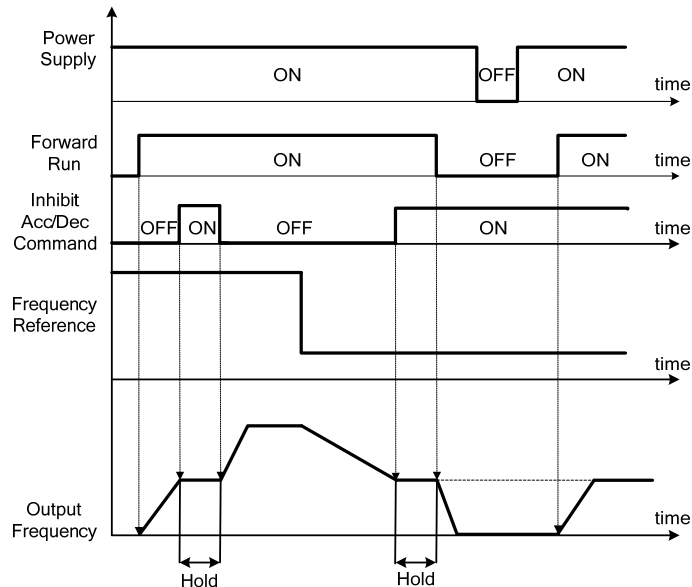

Figure 4.3.21 Inhibit acceleration / deceleration command operation
**(12) Acceleration/deceleration 1 selection (03-0X=10)**
**(13) Inhibit Acceleration/deceleration command (03-0X=11)**
- Operation of inhibit Acceleration/deceleration function, please refer figure 4.3.21 .